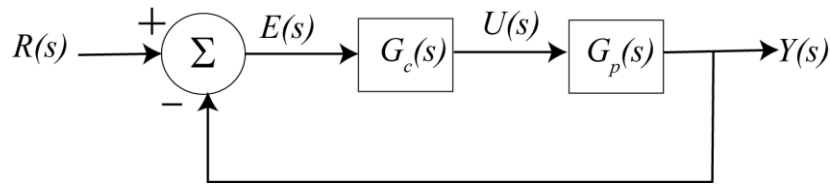

Figure 1: Basic closed loop system with unity feedback
1. Show that the feedback control system represented by the diagram in Figure 1 has the given transfer function  $G_o(s) = Y(s)/R(s)$ .
When a system is set to a certain value (**setpoint**) and there is no measurement of the output to determine whether it actually achieved the set point, this is called **open loop control**. If you drive with your eyes closed that would be an example of open loop control. Open loop control is not a very good way to design a system unless the system is extremely reliable, predictable with no chance of failures. A **closed loop** control system or **feedback control** is when you use some type of sensor (such as your eyes, thermometer, encoder, speedometer) to determine how far the system is away from the set point (**error**) and use the **controller** to make the adjustments. The controller may be an electronic device, human, biological functions, etc. In these examples, the system being controlled is the **plant** (car speed, car position, body temperature, room temperature). A standard unity feedback control system with input,  $R(s)$ , output,  $Y(s)$ , controller,  $G_c(s)$  and plant,  $G_p(s)$ , and error,  $E(s)$ , is shown in Figure 1.
In order to change the behavior of the plant, we are going to do two things, both of which are depicted in Figure 1. The first of these is to provide some feedback so we can compare the input and output of the system. This difference is called the **error signal** and it is just the difference between the input and the output. In the diagram the error signal is depicted as  $E(s)$ , and it is the difference between the **reference signal**,  $R(s)$  and the output signal,  $Y(s)$ ,  $E(s) = R(s) - Y(s)$ . In most control systems we want the output to equal the reference signal. The second thing we will do is to include a new system called a **controller**, that we depict by the transfer function,  $G_c(s)$ , that operates on the error signal and produces a new signal, the **control effort**,  $U(s)$ , which is the input into the plant. Note that the control effort is **not** the transfer function of the unit step.